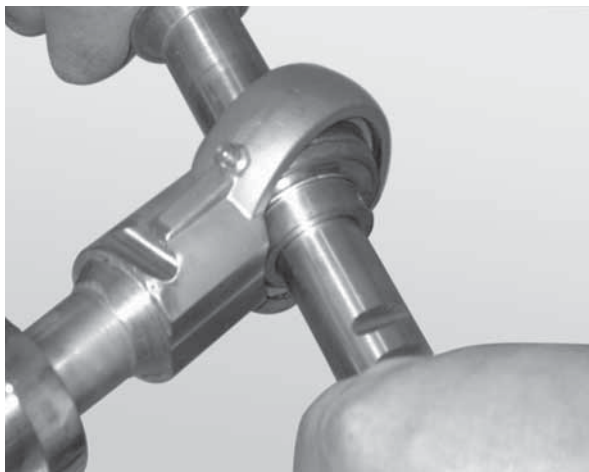

Figure 79
2. Insert the rod end of a second bearing shaft through the bearing (**Figure 79**).